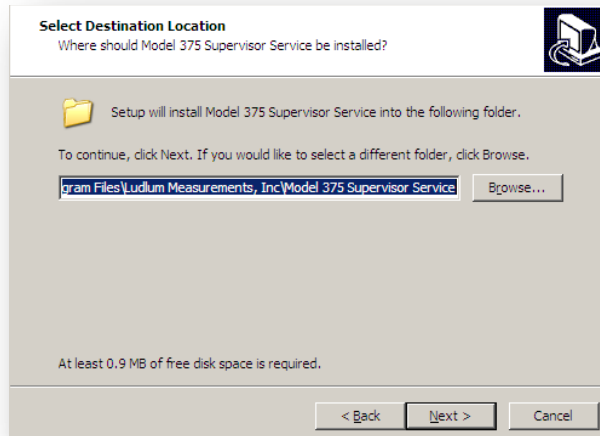

Figure 15 – Model 375 Web Page and Supervisor Service Installation Location
7. Click “Next” to accept the default installation directory, or click “Browse” to select a different installation directory. See Figure 15.